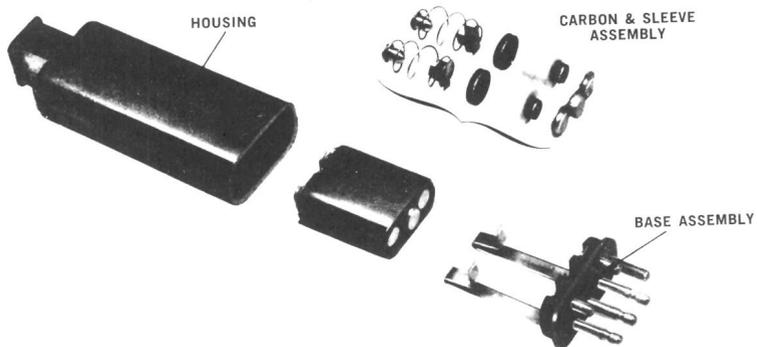

FIGURE 4. 100 Protector Unit
- 2.07 The Reliable Electric No. 1100 protector unit (Figure 4) with four carbon blocks for voltage protection is used on circuits where sneak current protection is not required. When the five metallic pins and one plastic polarizing pin of this protector are inserted in the connector unit, they provide the following contact for one cable pair: